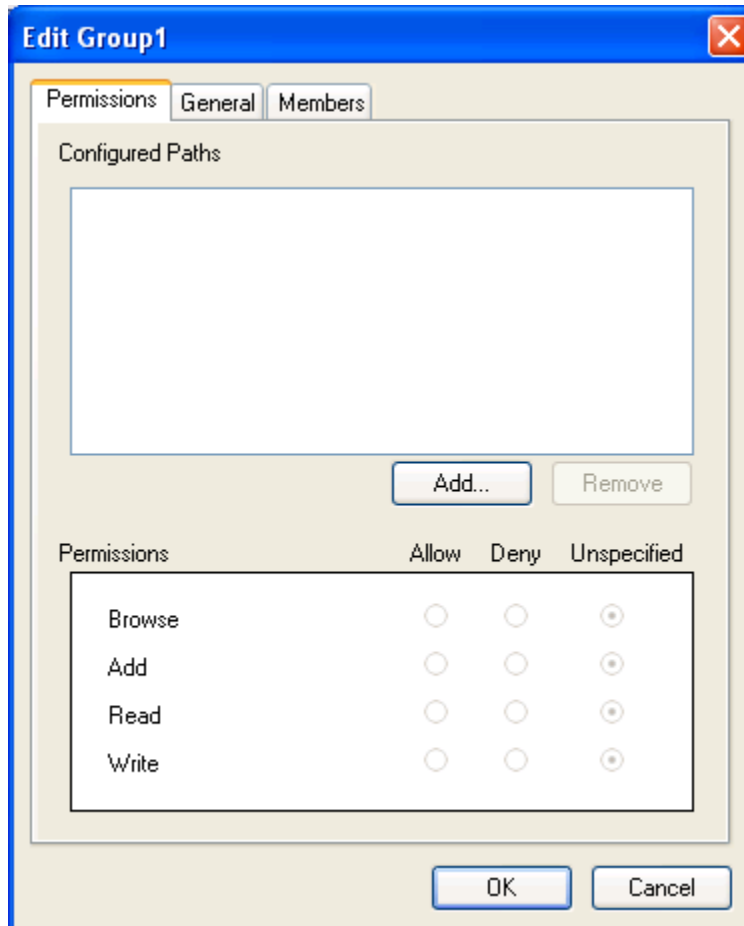

Figure 78 - Edit <Groupname> Window (Permissions Tab)
6. The **Edit <Groupname>** window (Figure 78) appears (for NT Groups, there is only the **Permissions** tab). Follow the instructions in the **Edit Group** section for adding permissions.
6. The **Edit <Groupname>** window (Figure 78) appears. Follow the instructions in the **Edit Group** section for adding permissions.
2. The **Edit <Groupname>** window (Figure 78) appears.